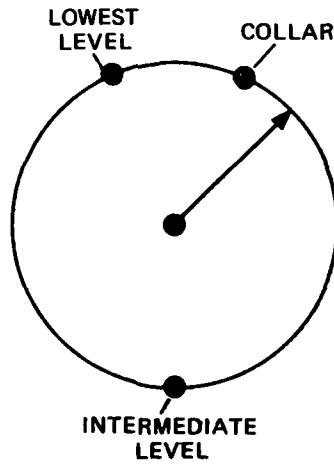

Figure 2
- A depth indicator with overtravel switches. (See Figure 2) This is in addition to the depth indicator discussed in Unit 12, "Depth Indicator."